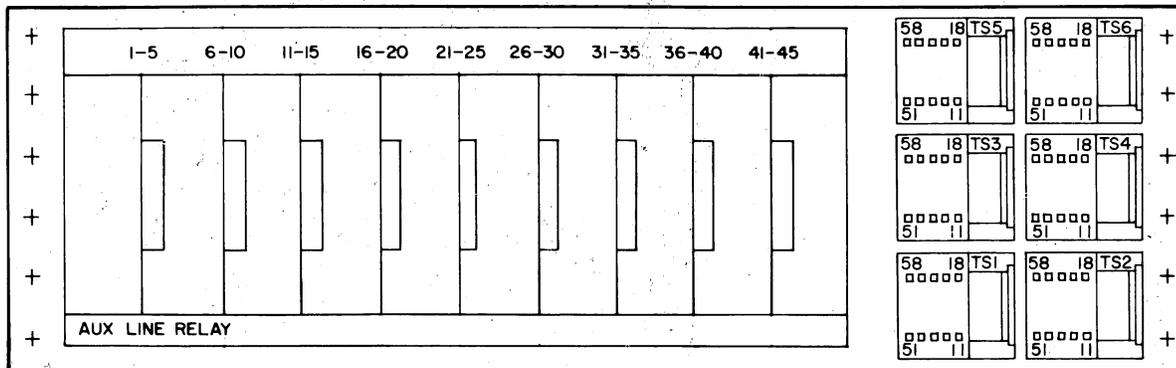

Fig. 5—J41648D L1, Eight L2 Shown
**J41648D—AT&TCo Std—Auxiliary Line Relay Assembly (See Fig. 5)**